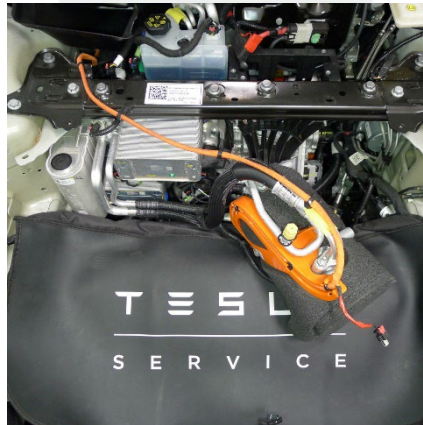

Figure 9
10. Carefully set the compressor onto the reinforcement beam (Figure 9).